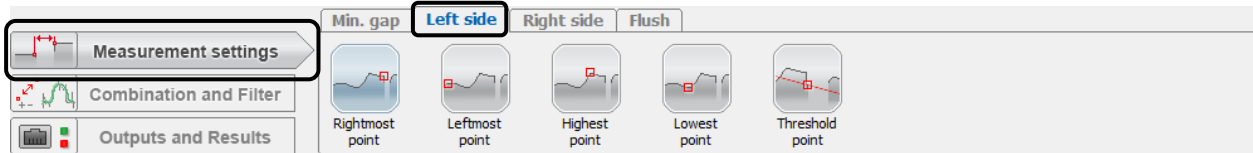

Fig. 3.35: "Measurement settings" input field, "Left side" tab sheet
- If not already done so, click on the "Measurement settings" button (see Fig. 3.35).
- If not already done so, click on the "Left side" tab (see Fig. 3.35).